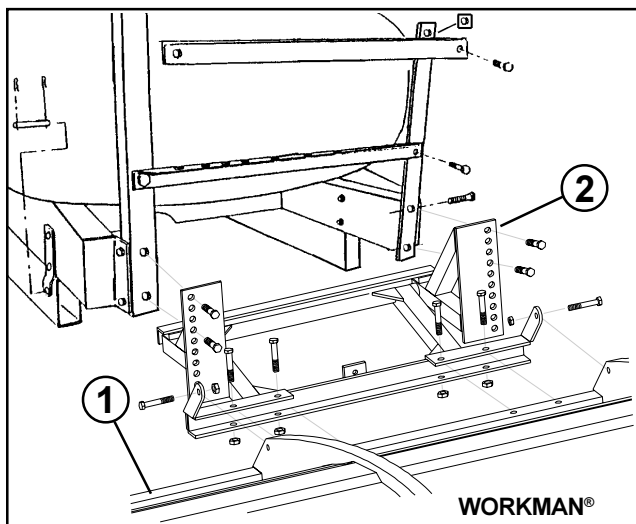

FIG. 4b
WORKMAN® SPRAY SYSTEM - Align the bottom hole in Boom Mount Angles with the seventh and tenth holes from the bottom on the Boom Mount. Secure with (4) 1/2" x 1-1/4" hex hd. cap screws and lock nuts. (FIG. 4b)